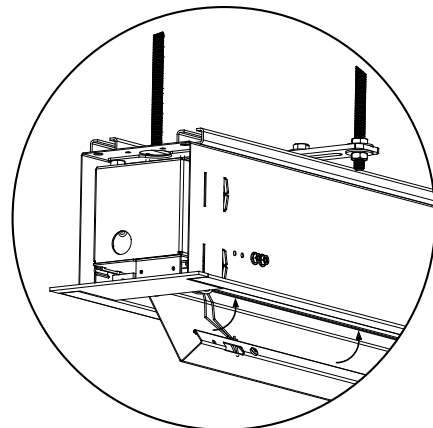

Figure 7
8. Rotate access door upward and push until you hear springs latch into door bracket (Figure 7). There are three attachment points, motor end, pin end and center.